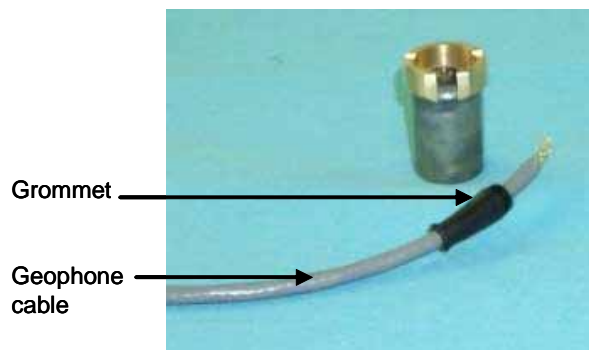

Figure 116. New geophone cable.
2. Prepare the geophone cable for assembly. Use a sharp art knife to split the two-strand wire and shield. Separate the wires to solder them onto the geophone (figures 116 and 117).